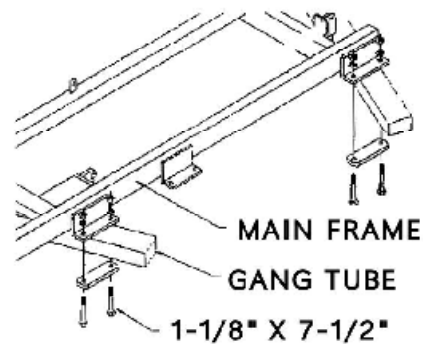

Fig. 3 Mounting gangs to frame
6) As shown in Figure 3, bolt the gangs to the left side of the main frame using the gang tube plate, 1-1/8" x 7-1/2" bolts, lockwashers, and hex nuts provided. Do not tighten bolts.